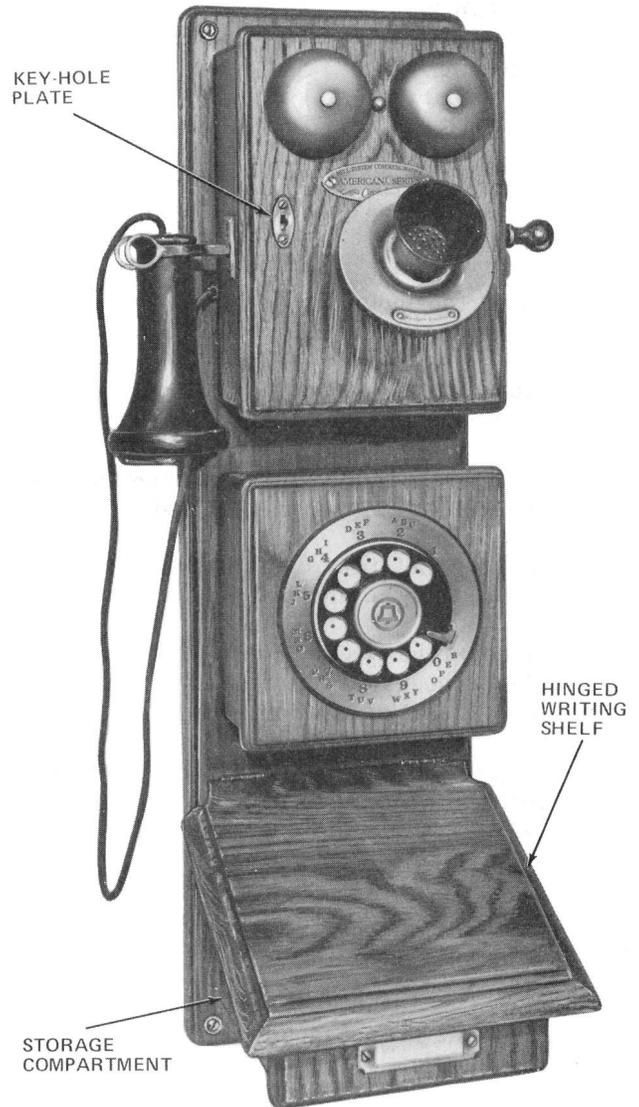

Fig. 1—CS952A1-03 DESIGN LINE Telephone Set
1.01 This section contains information on the CS952A1-03 (Fig. 1) DESIGN LINE* telephone set (Americana Edition Circa 1882 Telephone).